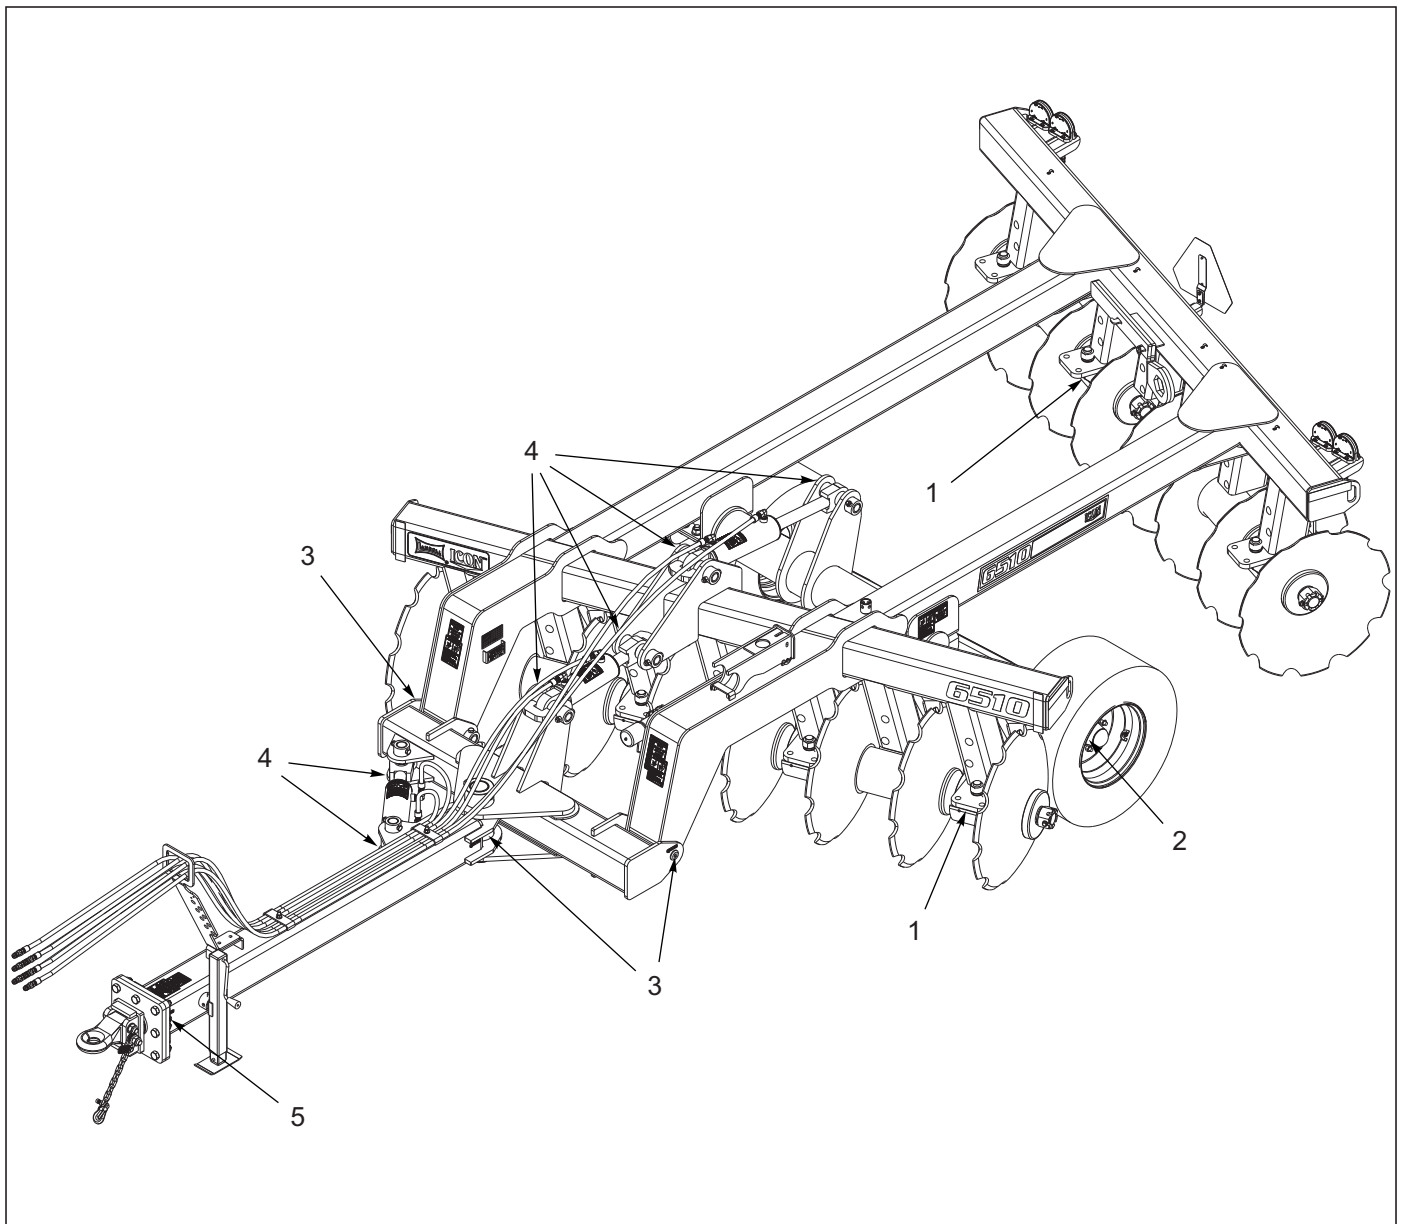

Figure 3-2: Lubrication Schedule
1. **Table 3-2** specifies the number and the period of lubrication points on the 6510 Disc. Proper maintenance of your machine will, under normal operating conditions, help to keep it operating at or near its peak performance for an extended period of time. Proper maintenance is also a condition of keeping your warranty in good status **See Figure 3-2.**
6. Lubricate the machine as shown in "Lubrication Schedule" on page 3-3, See Figure 3-2